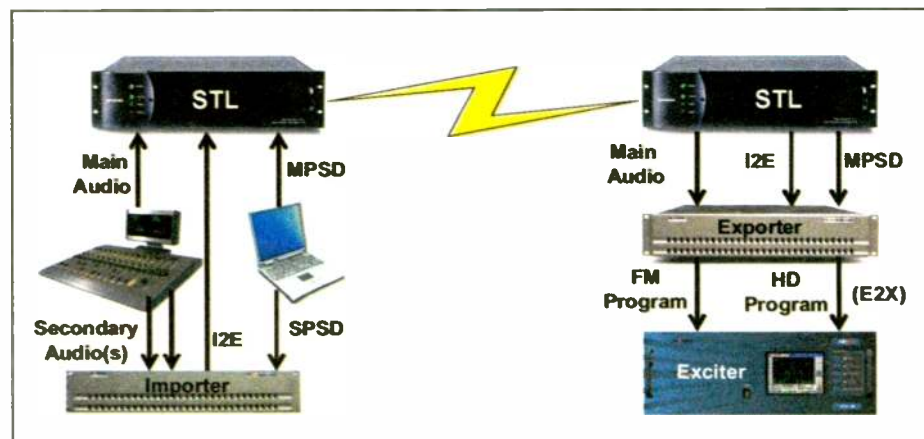

Fig. 3: Importer at Studio, Exporter at Transmitter (Scenario 2)
**Scenario 2:** Placing the Importer at the Studio and the Exporter at the transmitter site means we need to add I2E transport to the above. The I2E is a TCP data signal that can run as high as 156 kbps — not a huge amount of additional data, but being TCP, it requires duplex connectivity (Fig. 3).